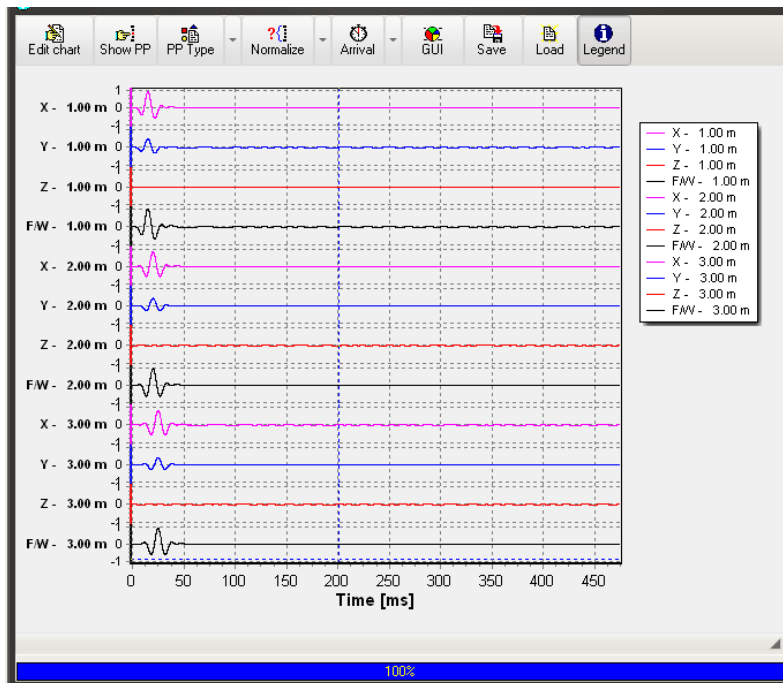
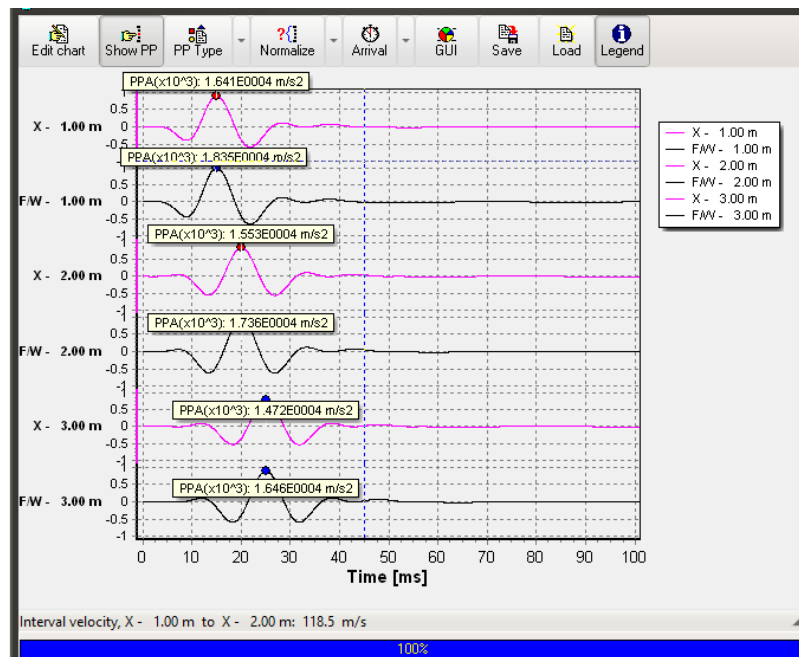

Figure 29: Seismic Time Series Data Shown in Figure 28 with the Globally Normalization Option Enabled
Figure 30: Illustration of PPA Values for Captured Triaxial Data. In addition, the interval velocity between depths 1.0 m and 2.0 m is shown
this set of triaxial data. Normalizing the data *globally*, all of the displayed seismic data is normalized with respect to the absolute maximum amplitude recorded within the entire set of displayed data. Figure 29 illustrates the seismic data shown in Figure 28 following a global normalization.
Similar to the *Standard VSP Display* software option, the user can display peak particle values for acceleration, velocity and displacement within the *X-Y-Z-Full Waveform* display. In addition, the *X-Y-Z-Full Waveform VSP Display* allows for the automation of the interval velocities based upon the relative arrival time differences of the peak particle values. To implement this, the user should first select the axis component (i.e., X, Y, Z or full waveform) from which the relative arrival time will be calculated by enabling pull down menu *Arrival*. Next the user selects menu button *Show PP* so that the peak particle values are displayed. For example, Figure 29 illustrates the PPA values for recorded triaxial data. The user then selects the appropriate peak particle (PP) text box and moves it as desired so that the location of the PP value can be identified. As the user moves the cursor through the graphical profile, interval velocity estimates will be displayed within the bottom message window. The two PP values utilized to obtain the relative arrival times will be blink red for easy identification. For example, in Figure 30 the PPA values at depths 1.0 m and 2.0 m are identified by blinking red dots. The corresponding interval velocity is displayed at the bottom of the chart as follows: